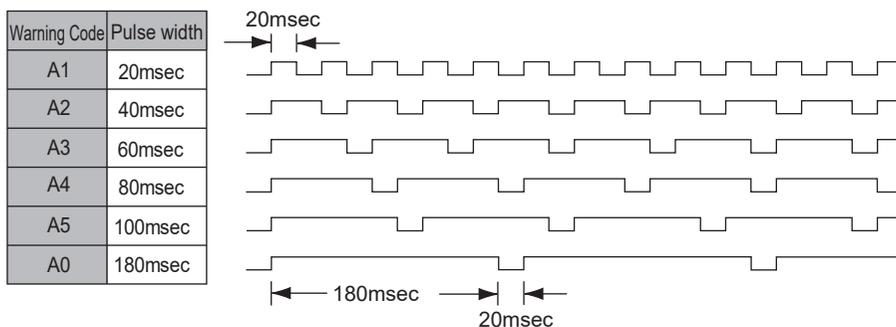

Fig. 59
When a warning occurs, a warning signal is output to the external Input / Output Connector A ③ (terminal No. 20: WARNING). (Refer to Fig. 59.)